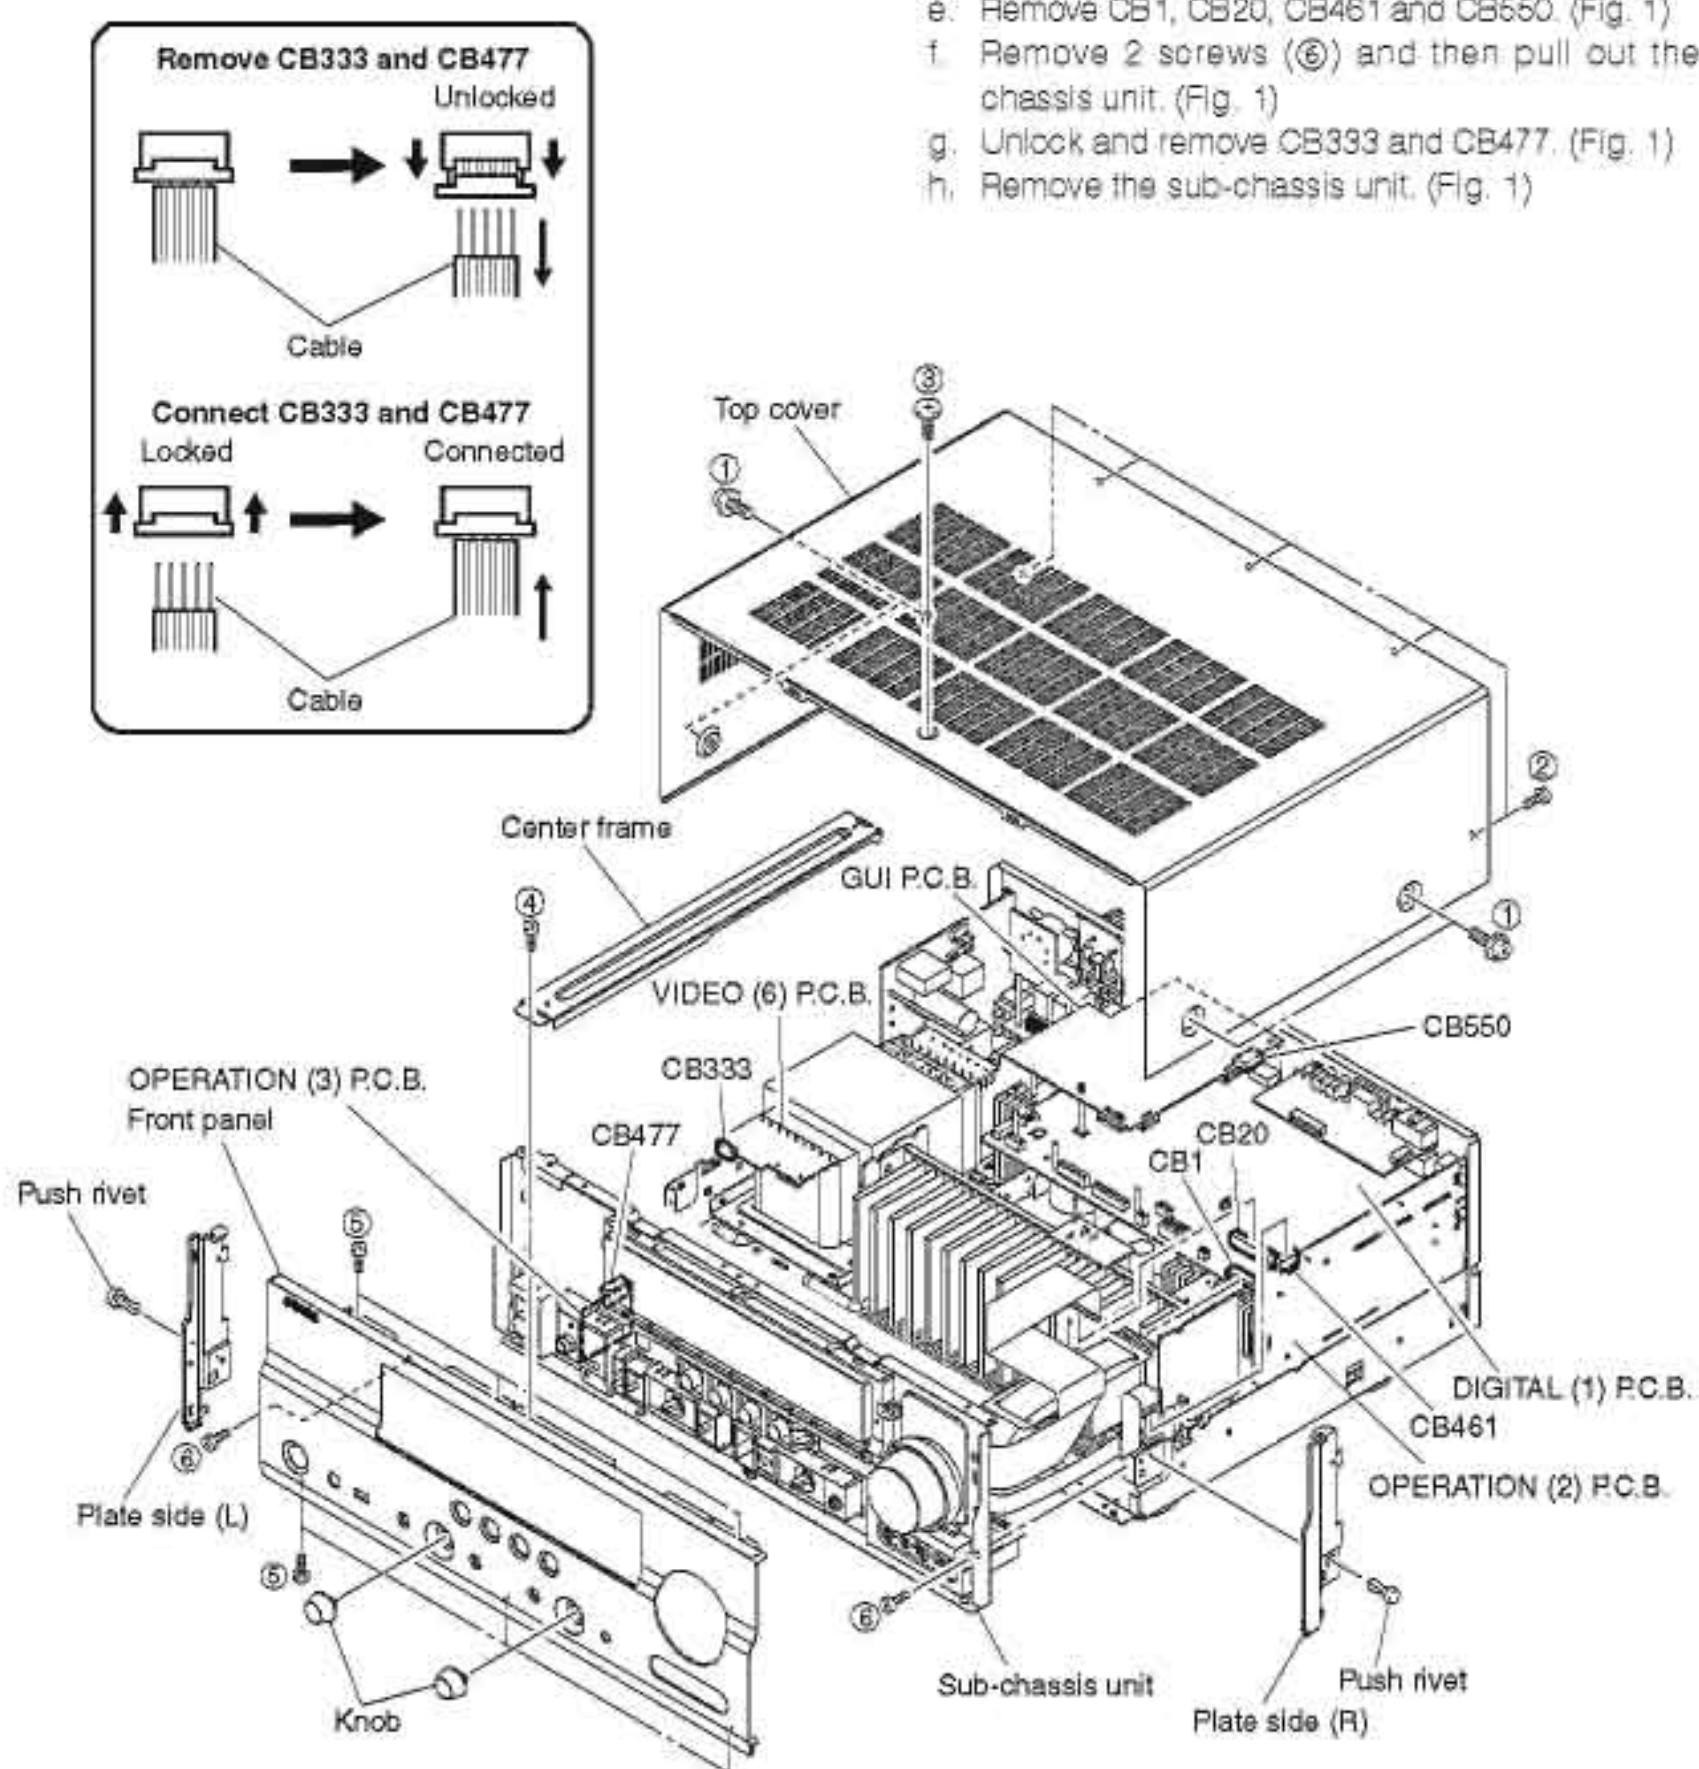

Fig. 1
- a. Remove 4 screws (①), 5 screws (②) and screw (③). (Fig. 1)
- b. Slide the top cover rearward to remove it. (Fig. 1)
- a. Remove screw (④) and then remove the center frame. (Fig. 1)
- b. Remove 2 knobs. (Fig. 1)
- c. Remove 6 screws (⑤) and then remove the front panel. (Fig. 1)
- d. Remove 2 push rivets and then remove the plate side (L) and (R). (Fig. 1)
- e. Remove CB1, CB20, CB461 and CB550. (Fig. 1)
- f. Remove 2 screws (⑥) and then pull out the sub-chassis unit. (Fig. 1)
- g. Unlock and remove CB333 and CB477. (Fig. 1)
- h. Remove the sub-chassis unit. (Fig. 1)